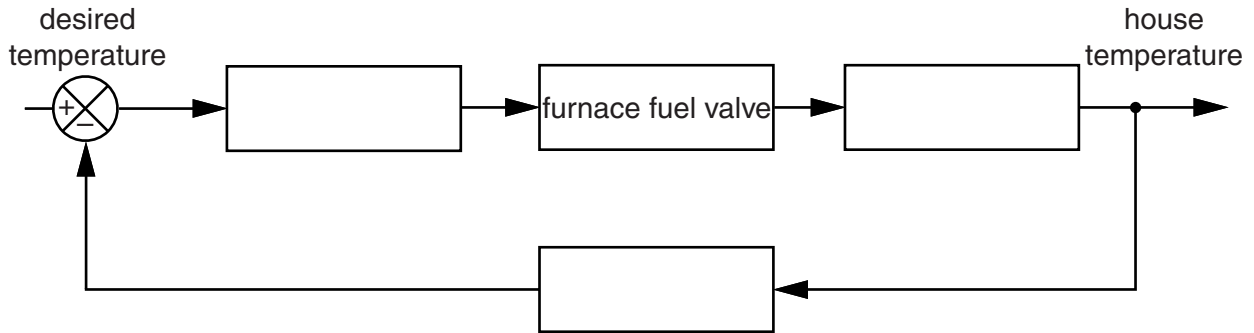

Fig. 2
- 1 (a) Fig. 2 shows a block diagram of a home central heating control system.
- (i) Name the type of control system shown in Fig. 2.